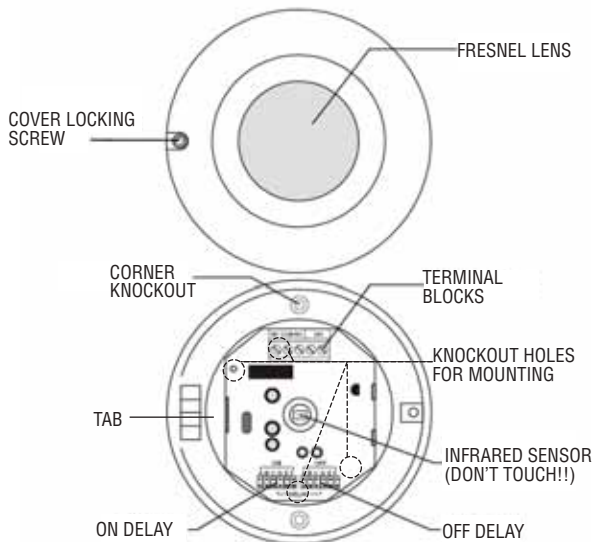

Figure 1b
- Remove the cover screw to open the sensor housing as shown in Figure 1b.
- Remove the circuit board by bending the tab outward (Figure 1b.)
- Screw the base of the sensor housing to the ceiling through the knockout holes (Figure 1b.)
- Feed the cable through one of the corner knockout holes (Figure 1b.)
- Turn the screw for each terminal counterclockwise (Figure 1b.)